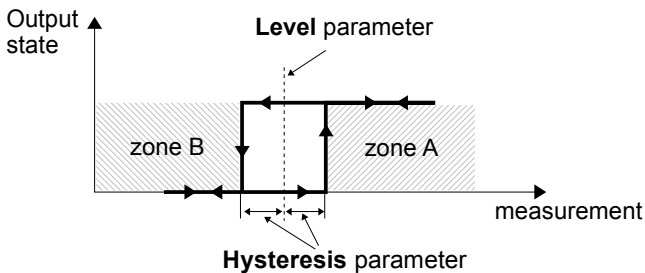
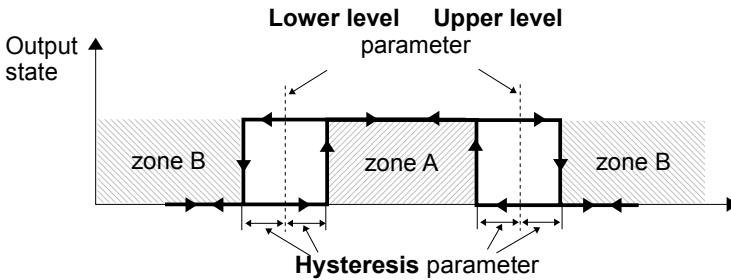

Fig. 7.80. One threshold control of the relay outputs
Fig. 7.81. Two threshold control of the relay outputs
- **Mode** - this parameter allows the user to select the method of operation of the output, **Mode** parameter has options (see **Fig. 7.80** and **Fig. 7.81**):
Levels parameter block (see Fig. 7.80, Fig. 7.81 and Fig. 7.82)
- **Hysteresis** - defining this parameter, the user can move the level for changes in output state (see Fig. 7.80 and Fig. 7.81),